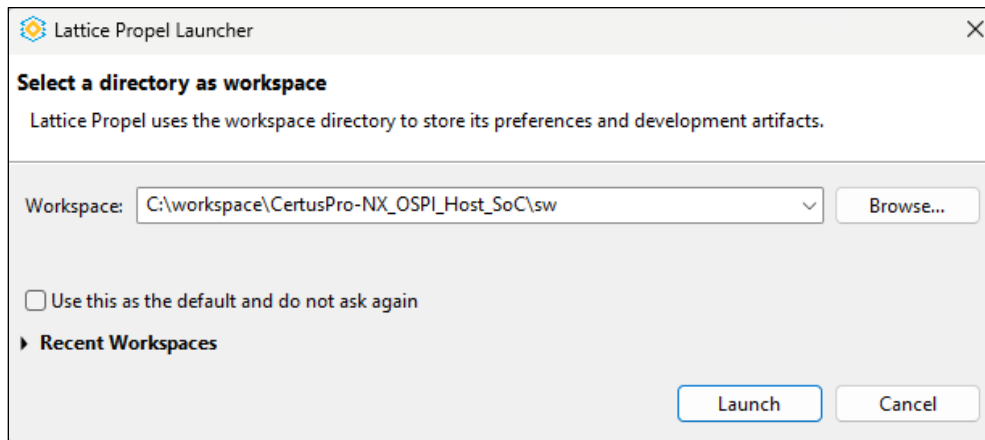

Figure 7.5. Propel SDK Workspace Setup
4. Create a new folder named `propel_workspace` and click **Select Folder**. Figure 7.5 shows the reference design workspace setup.